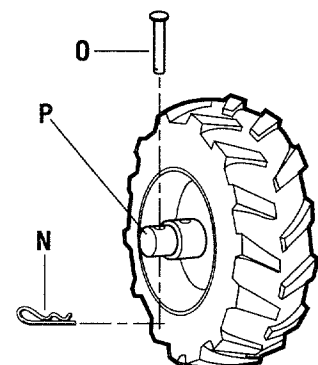

Fig. 2-3: Wheel in FREEWHEELING position.
2. Remove the hair pin cotter (N, Fig. 2-3) and clevis pin (O). Slide the wheel inward on the axle (P) and reinstall the clevis pin and hair pin cotter through the axle only